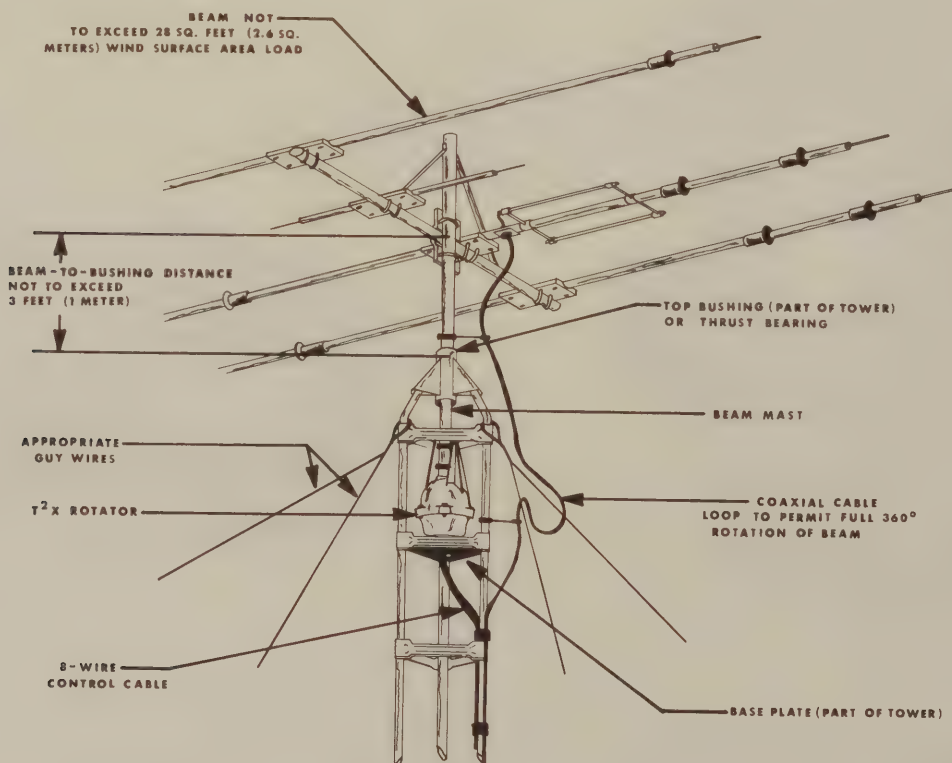
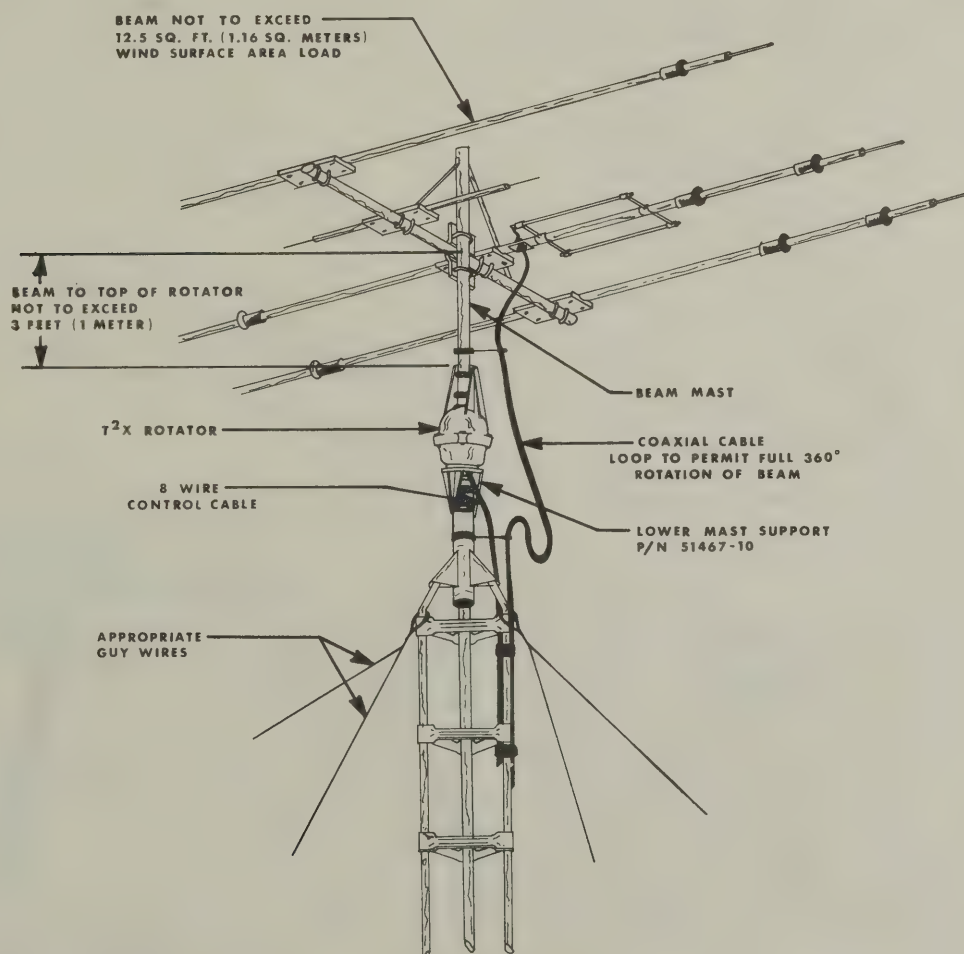

FIG. 1 - INSIDE TOWER MOUNTING
FIG. 2 - TOP OF TOWER MOUNTING
- D. When not mounted within a tower with a thrust bearing as shown in Figure 1, the rotator must be **DERATED** - See specifications.
The Tailtwister rotor consist of an extra heavy duty rotator and control unit. The rotator is designed to be mounted on a plate inside a tower. A mast to support and turn large communications beams (see figure 1) is then attached to the top of the rotator. The rotator must be wired to the control unit with eight-wire cable. The control unit may be placed inside the house or other protected location. Included with the rotor are:
- G. Optional lower heavy duty Mast Support Kit must be procured if the owner elects to use an "outside" tower mount (see figures 2 and 3). The part number for the Lower Mast Support Kit is 51467-10. "Inside" tower (figure 1) is recommended.
There are three general types of installations (see figures 1 through 3).
2. An "outside" tower mount as shown (See Figure 2) is optional. The rotator is not as well protected but the installation is simpler. The owner must procure the Heavy Duty Lower Mast Support Kit, P/N 51467-10, to install as in figure 2 and derate to 12.5 square feet ( $1.16M^2$ ).
There are variations of the above falling generally into one of the above categories. For example, the rotator may be mounted lower in the tower than shown in Figure 1. In that case, more than one bushing or thrust bearing for the beam mast may be required and longer coast down time allowed in operation. These factors are interrelated and the components must be matched together.
A. **INSIDE TOWER** The rotator is mounted inside a tower (see figure 1) to the flat tower plate by means of six bolts furnished in the hardware kit. Use the following procedure:
9. Return the rotator to the full CW "S" position. Mount the beam pointing South. The coaxial cable should be looped as per Figure 1 in such a manner that it will not foul or tangle when the beam turns around in a circle to the full 360° clockwise position.
Referring to figures 2, 3 and 7 an outside tower or pole mount is made in the same manner except that the rotator is fastened by four bolts only (not six), to the lower mast support, P/N 51467-10. Since the eccentricity of the rotator turning in reference to the tower is no longer important, the shimming procedure is not necessary. The four screws must be torqued to the same specification and the 8-wire cable securely fastened. The lower mast support should be pinned with the bolt provided by drilling in the same manner as described for the upper bell casting. **CAUTION:** The rotator is designed for vertical operation with the bell shaped housing in the up position. Water and other contamination will get into the motor unit if it is mounted horizontally or up-side down.
The stock Tailtwister T2X is intended to mount on the base plate inside of the tower. However, in some instances outside tower or mast mounting is desired as per figures 2 and 3. This kit, part number 51467-10, contains a heavy duty lower mast support and the necessary hardware to facilitate mounting the T2X on top of a tower stub or mast. Caution, when the rotator is installed using the lower mast support kit, the antenna size must be restricted to 12.5 square feet (1.16m2) of wind surface area.